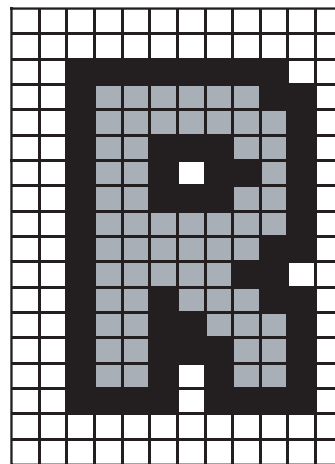

FIGURE 38. Bordering
4. **Bordering**—A border can be added to the two-color characters. When a character is bordered, a border pixel is added at every horizontal, vertical or diagonal transition between Color 1 and Color 2. See *Figure 38*. The color of the border is determined by the value in the color palette register EF3 (normally black).